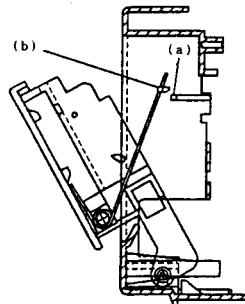
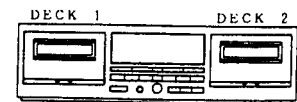

Fig. 6-2
Fig. 6-3
1. Attach the door spring at position (b) according to fig. 6-2, and stand the front panel assembly straight up as shown in fig. 6-3.